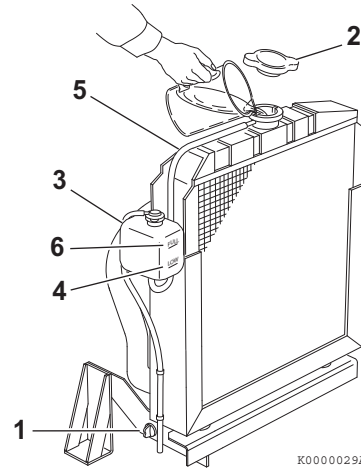
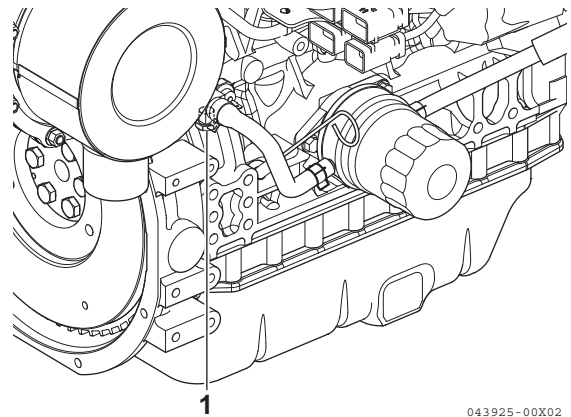

Figure 4-22
Figure 4-23
1. Check to be sure the radiator drain plug is installed and tightened or the drain cock (**Figure 4-22, (1)**) is closed. Also make sure the coolant hoses (**Figure 4-23, (1)**) are installed at the oil cooler.
2. Remove the radiator cap (**Figure 4-22, (2)**) by turning it counterclockwise about 1/3 of a turn.
4. Reinstall the radiator cap (**Figure 4-22, (2)**). Align the tabs on the back side of the radiator cap with the notches on the engine coolant filler port. Press down and turn the cap clockwise about 1/3 of a turn.
5. Remove the cap of the reserve tank (**Figure 4-22, (3)**), and fill it to the LOW (COLD) mark (**Figure 4-22, (4)**) with engine coolant. Reinstall the cap.
6. Check the hose (**Figure 4-22, (5)**) that connects the reserve tank (**Figure 4-22, (3)**) to the radiator. Be sure it is securely connected and there are no cracks or damage. If the hose is damaged, engine coolant will leak out instead of going into the reserve tank.
7. Run the engine until it reaches operating temperature. Check the level of engine coolant in the reserve tank. When the engine is running and the engine coolant is at normal temperature, the coolant level in the reserve tank should be at or near the FULL (HOT) mark (**Figure 4-22, (6)**). If the coolant is not at the FULL (HOT) mark, add coolant to the reserve tank to bring the coolant level to the FULL (HOT) mark.
1. Check the level of engine coolant in the reserve tank. When the engine is cold, the coolant level in the tank should be at or slightly above the LOW (COLD) mark (**Figure 4-22, (4)**) on the coolant reserve tank.
If the coolant level is at the FULL (HOT) mark (**Figure 4-22, (6)**) when the engine is cold, the coolant will expand when it becomes hot and possibly spray out of the overflow hose.